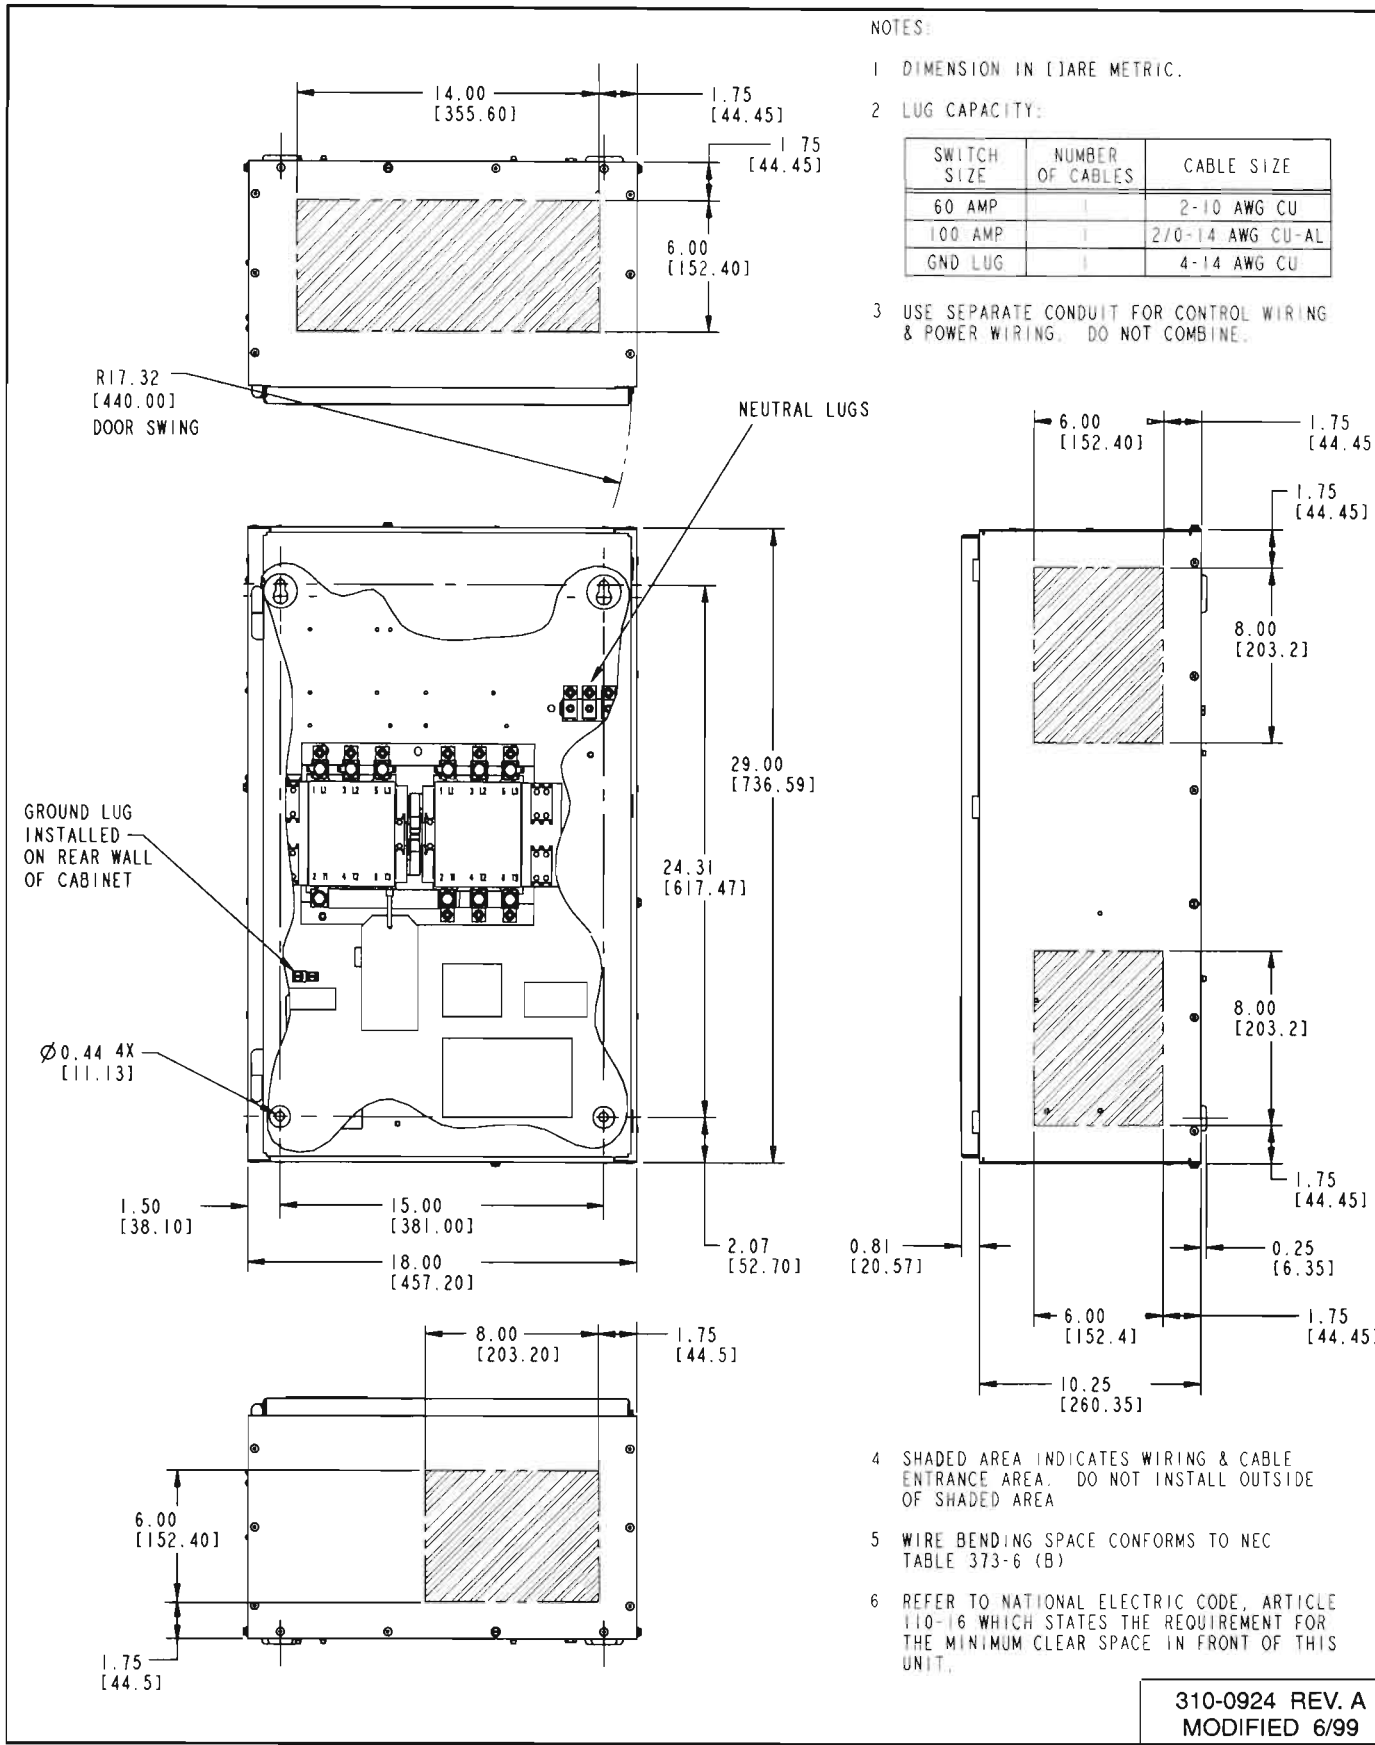

FIGURE 2-2 TYPICAL 60 & 100 AMP OUTLINE DRAWING
1. Use four 3/8 inch bolts for wall mounting. Refer to Figures 2-2 and 2-3 for the outline drawing of the panel. Measure and mark wall for drilling. Before drilling, check the location to be sure that no wires, or plumbing, gas, or exhaust lines run behind the wall.
Refer to the outline drawings shown in Figures 2-2 and 2-3 for mounting hole dimensions.